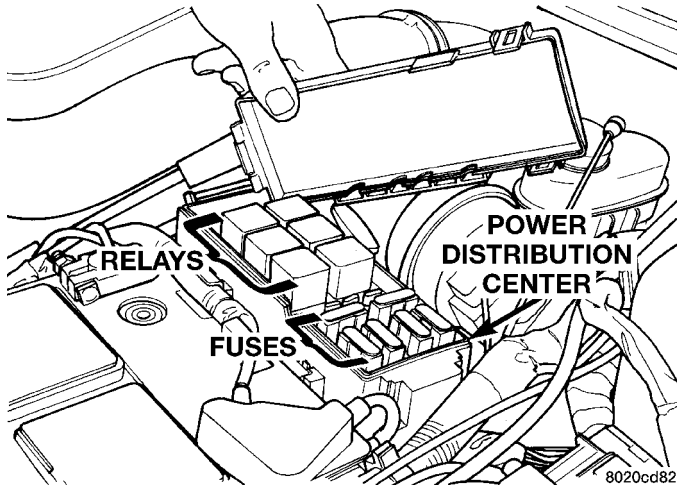

Fig. 32 Power Distribution Center
(3) Open the Power Distribution Center (PDC). Check for blown fuses. Ensure the relays and fuses are fully seated in the PDC (Fig. 32). A label on the underside of the PDC cover shows the locations of each relay and fuse.